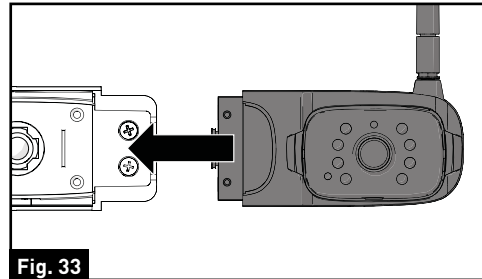
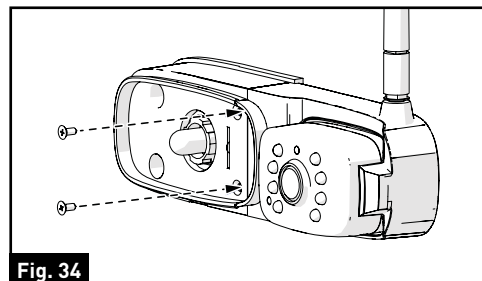

Fig. 33
Fig. 34
6. Insert the front or rear camera into the traffic light base and secure with the two flat self-tapping screws provided. (Fig. 33 and Fig. 34)